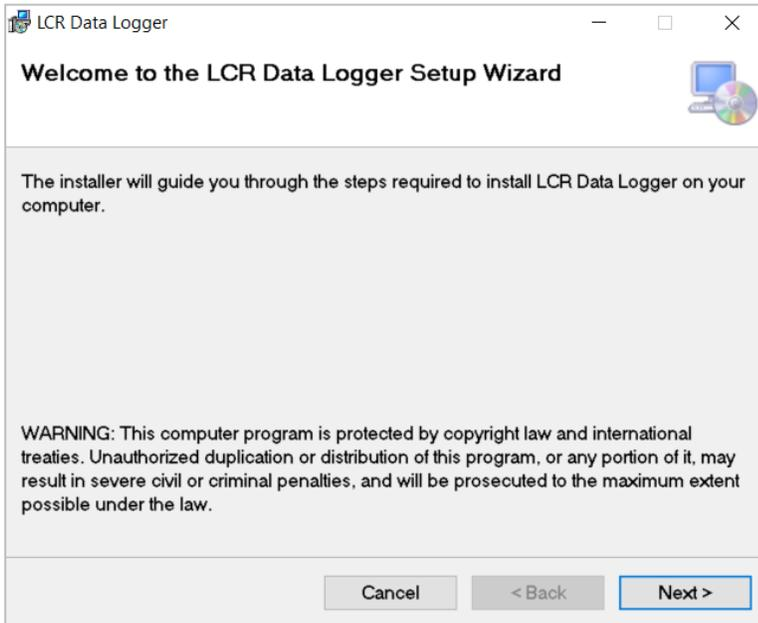

Figure 2-7: LCR Data Logger Setup Wizard
10. Click the **Next** button as Figure 2-7 shows to start LCR Data Logger Setup Wizard.